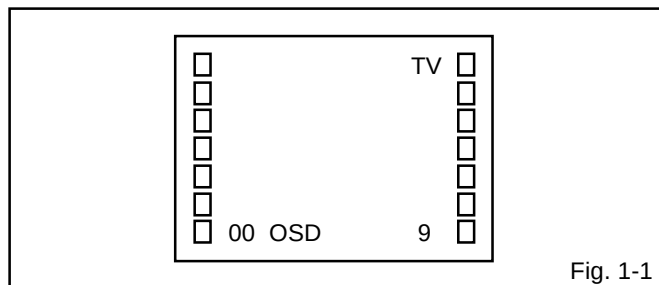

Fig. 1-1
2. Press the VOL. DOWN button on the set and the Channel button **(9)** on the remote control for more than 2 seconds to appear the adjustment mode on the screen as shown in **Fig. 1-1**.